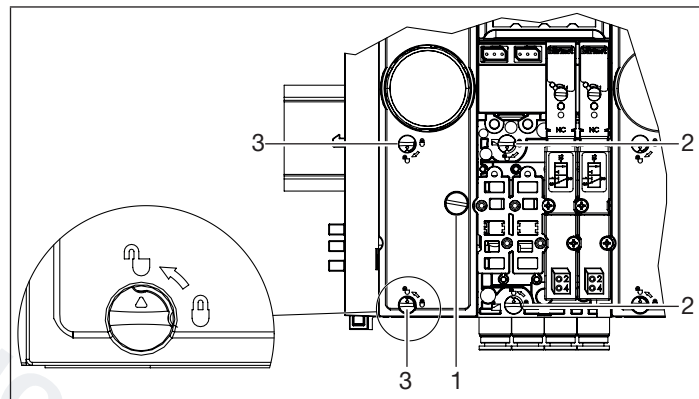

Fig. 15: Unlocking elements and fastening screw
- Carefully rotate the connection module fastening screw (Item 1, "Fig. 15") anticlockwise with a slotted screwdriver until it comes to a stop.
- Set the bottom locking element (Item 2, “Fig. 15”) of the valve unit on the right side to the open position with a slotted screwdriver (the open position is labelled on the front of the unit with the aid of a pictogram).
- Set the top locking element (Item 2, “Fig. 15”) of the valve unit on the right side to the open position with a slotted screwdriver (the open position is labelled on the front of the unit with the aid of a pictogram).
- Carefully rotate the connection module fastening screw (Item 1, “Fig. 15”) anticlockwise with a slotted screwdriver until it comes to a stop.
- Set the bottom locking element of the connection module (Item 3, “Fig. 15”) and the valve unit on the right side (Item 2, “Fig. 15”) to the open position with a slotted screwdriver (the open position is labelled on the front of the unit with the aid of a pictogram).
- Set the top locking element of the connection module (Item 3, “Fig. 15”) of the valve unit on the right side (Item 2, “Fig. 15”) to the open position with a slotted screwdriver (the open position is labelled on the front of the unit with the aid of a pictogram).
- Set the bottom locking element (Item 2, “Fig. 15”) of the valve unit on the left side to the open position with a slotted screwdriver (the open position is labelled on the front of the unit with the aid of a pictogram).
→ Set the top locking element (Item 2, “Fig. 15”) of the valve unit on the left side to the open position with a slotted screwdriver (the open position is labelled on the front of the unit with the aid of a pictogram).
→ Set the bottom locking element (Item 2, “Fig. 15”) of the valve unit to be dismantled, and the valve unit on the right side, to the open position with a slotted screwdriver (the open position is labelled on the front of the unit with the aid of a pictogram).
→ Set the top locking element (Item 2, “Fig. 15”) of the valve unit to be dismantled, and the valve unit on the right side, to the open position with a slotted screwdriver (the open position is labelled on the front of the unit with the aid of a pictogram).